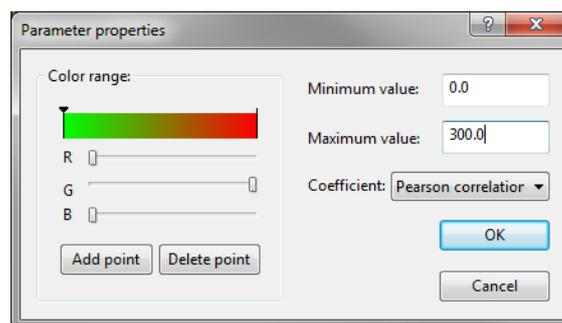

Figure 14: Parameter properties.
6. Select **Parameters** > **Parameter properties...** to call the *Parameter properties* dialog box (see Figure 14).